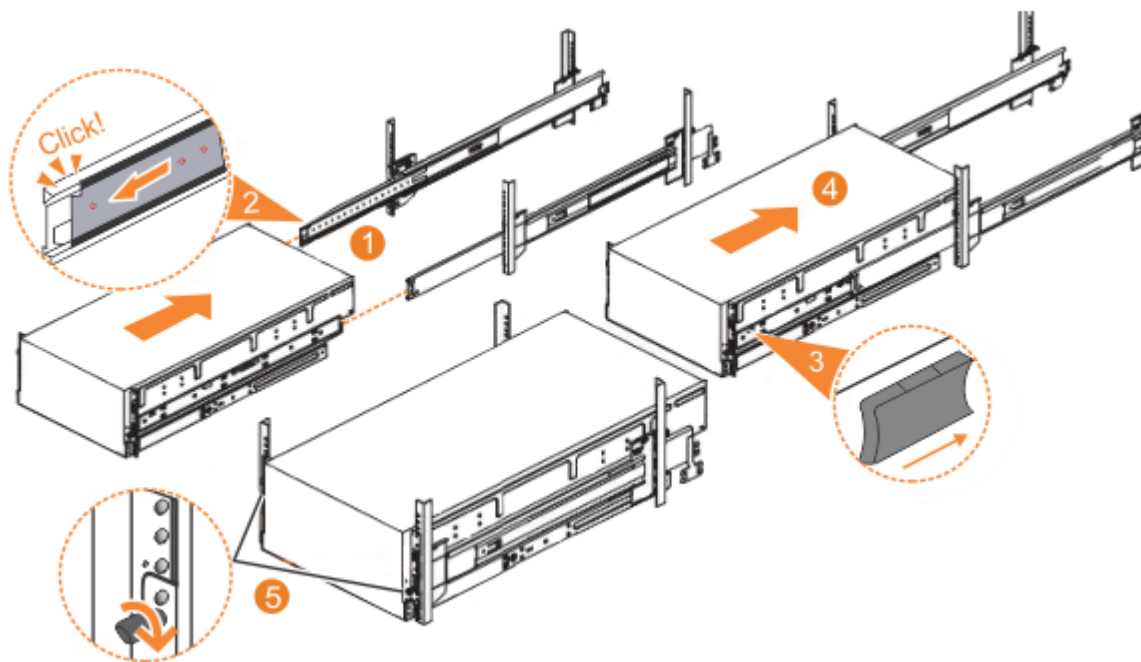

Figure 50. Replacing the 2072-92F enclosure in the rack
1. Fully extend the left and right drawer sections from the rack to lock the rails in the extended position (1 in Figure 50 on page 64).
2. Ensure that the ball bearing retainer clicks into place inside the front of the left and right drawer sections (2 in Figure 50 on page 64).
3. Locate the left and right blue release tabs near the front of the enclosure. Press both release tabs forward to unlock the drawer mechanism (3 in Figure 50 on page 64).
4. Push the enclosure firmly into the rack (4 in Figure 50 on page 64).
5. Tighten the locking thumb screws (5 in Figure 50 on page 64) to secure the enclosure in the rack.